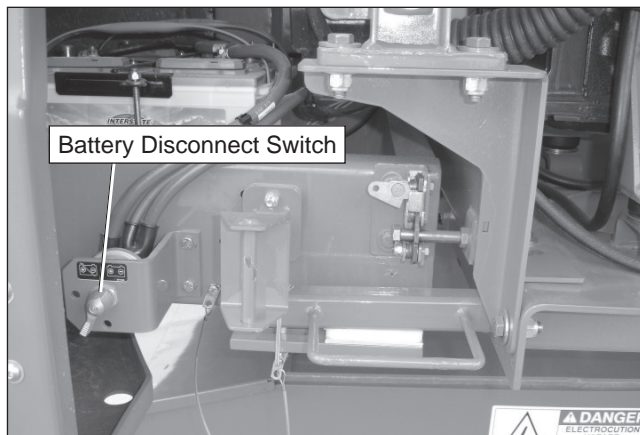

Figure 10.1 – Battery Disconnect Switch
1. Place the battery disconnect switch in the on position (refer to Figure 10.1).